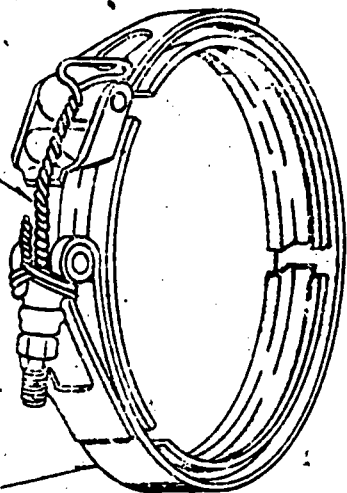

Figure 2-11. - Safelying a V-band coupling.
8. Safety wire the V-band coupling as illustrated in figure 2-11 as an extra measure of security in the event of T-bolt failure. If the nut